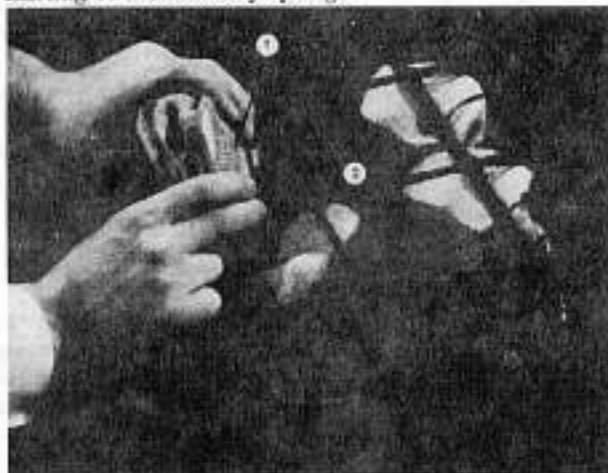
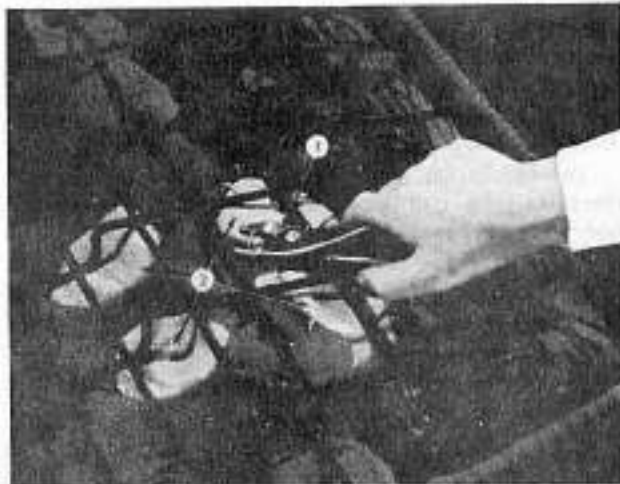

FIG. 368
FIG. 369
To install the auxiliary springs, compress, insert, and position them between the rows of permanent springs (2) as shown in Fig. 368. Then using suitable pliers, fasten the auxiliary springs to the adjoining permanent springs with hog rings (1) as shown in Fig. 369. Installation of the hog rings will prevent shifting of the auxiliary springs.